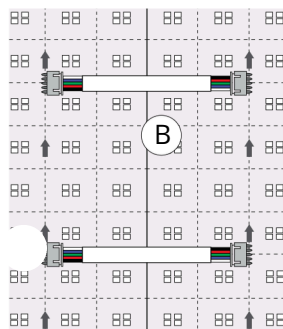
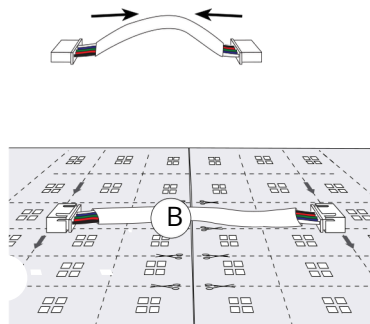

Figure 1
Figure 2
Short sheet-to-sheet connectors (B): When adjacent Auragami Light Sheets are mounted side-by-side with connection blocks aligned, the shorter sheet-to-sheet connection wires (B) should be used to interconnect multiple sheets. Their lengths are optimized so sheets align snugly. See Figure 1. When connecting Light Sheets that are already mounted to a fixed surface, the short connection wires (B) will need to be shaped as shown in Figure 2 prior to pushing into connection blocks. Best practices include using two sheet-to-sheet mounting connection wires for all adjacent Light Sheets in each Class 2 circuit to minimize voltage drop. Dry-fit test for proper illumination prior to mounting Light Sheets to the mounting surface and again before the forward facing material is installed.